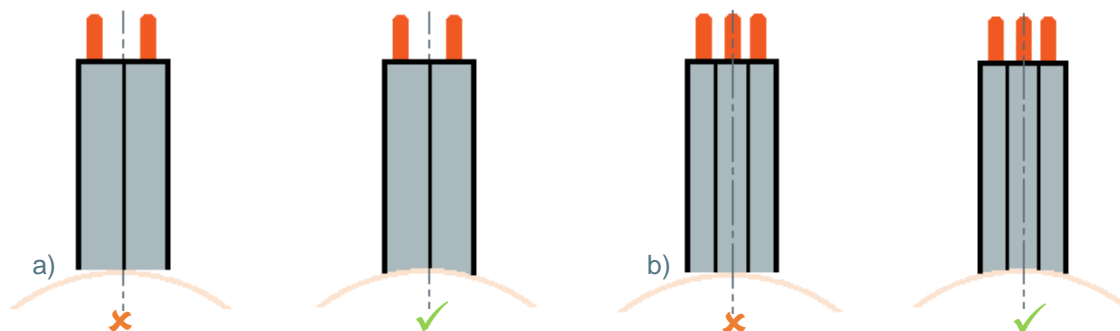

Fig. 2 – Incorrect (✗) and correct (✓) seating of the contact surface of a dual-wafer (a) or three-wafer (b) split brush
- the radius of curvature of the commutator or slip ring is very small - especially if split brushes are used (fig. 2).
- for a dual-wafer brush (fig. 2.a): at the area comprising the edges of the brush face
- for a three-wafer brush (fig. 2.b) at the central wafer only